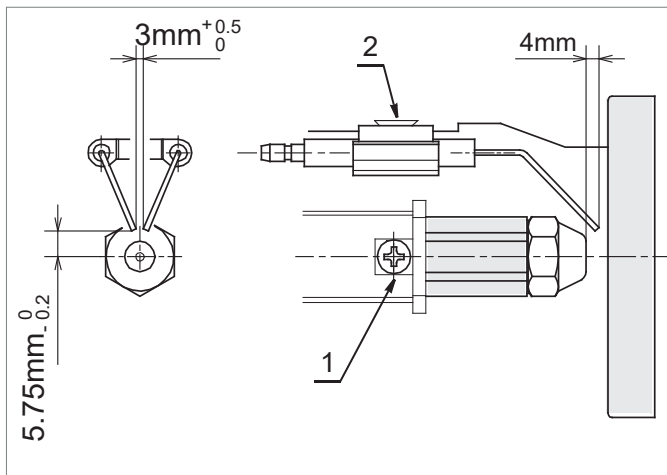

Figure 10-9: Ignition electrode settings
11. Check/adjust the electrode assembly to give the correct gap (4mm) between the nozzle and electrodes. Refer to Figure 10-9.